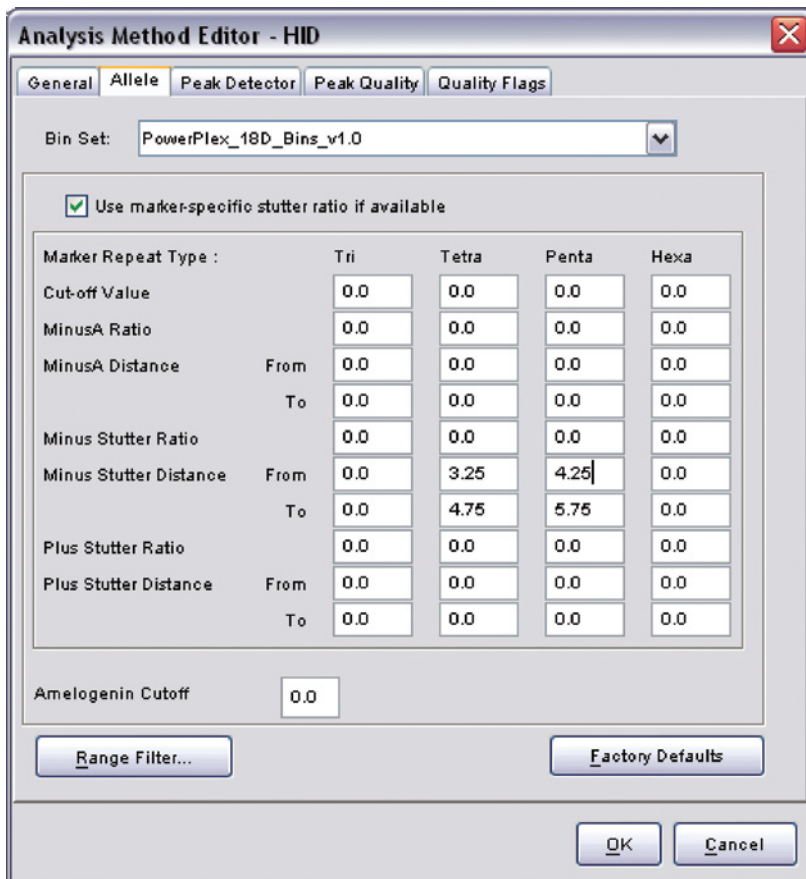

Figure 19. The GeneMapper® ID Software ‘Allele’ tab.
6. Select the 'Allele' tab (Figure 19).
9. Enter the values shown in Figure 19 for proper filtering of stutter peaks when using the PowerPlex® 18D System. For an explanation of the proper usage and effects of these settings, refer to the Applied Biosystems user bulletin titled "*Installation Procedures and New Features for GeneMapper ID Software 3.2*".